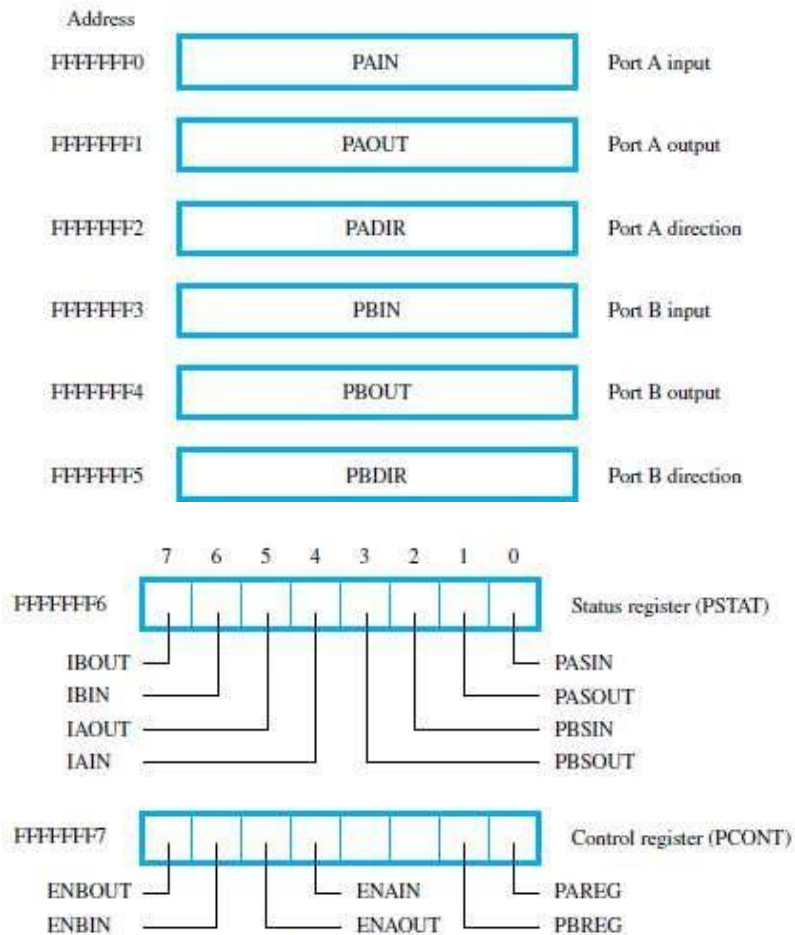

Figure 10.6 Parallel interface registers.
- **Addressable Registers** are (Figure 10.6):
- $PASIN = 1 \rightarrow$ When there are new data on port A (Figure 10.6).